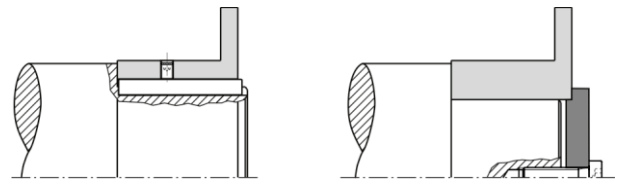

Fig. 5
- ❑ Mount the hubs (1/1.4) onto the shafts using a suitable device and secure them axially (Fig. 5). Axial securement takes place using a set screw (adjusting screw), which presses radially onto the key; or via a press cover and a screw, screwed into the shaft threaded center hole.